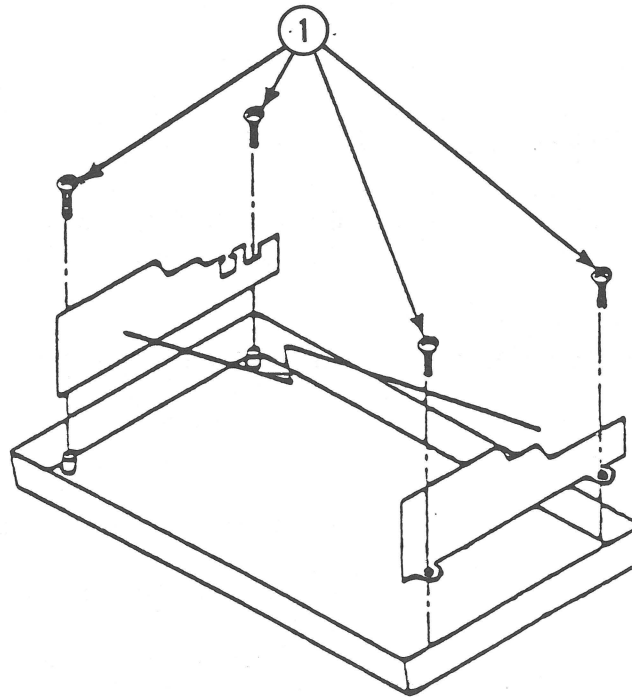

FIGURE 34
8. To free the mechanical assembly, remove the four screws (Figure 34, #1) holding it to the bottom cover.
2. Replace the four screws (Figure 34, #1).